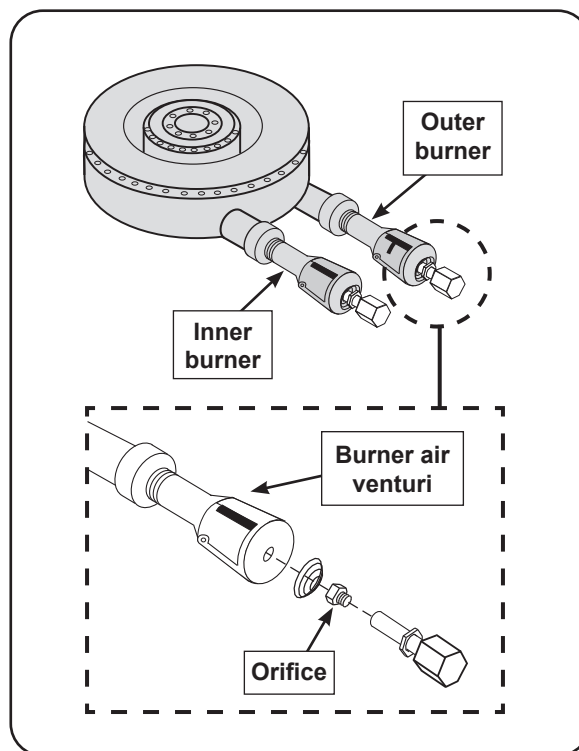

Fig. 44-1 Burner orifice orientation
2. Locate the orifices. The orifice size is stamped on each orifice face (see Fig. 44-1).